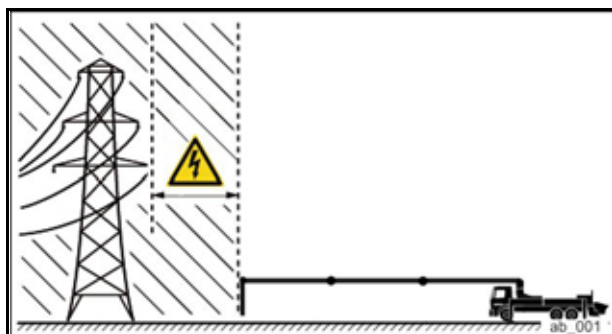

Fig. 52 Safety distance for high-voltage line
- Maintain the prescribed safety distance between high-voltage lines and all placing boom positions (Table 2 Safety distances for high-voltage lines), (Fig. 52 Safety distance for high-voltage line).